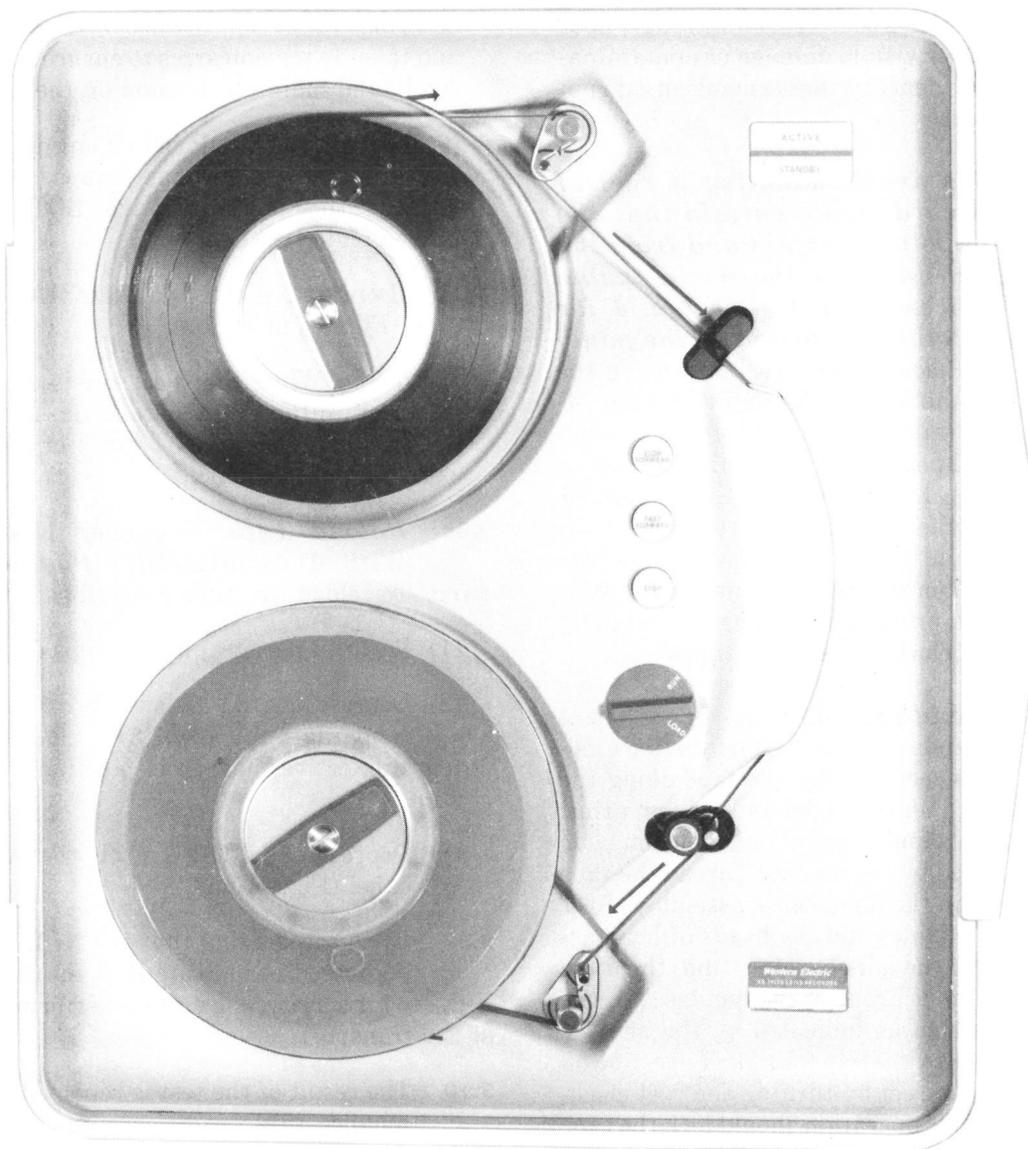

Fig. 4—KS-19125, L3, Recorder (With Tape Reels in Place)
(5) **Caution: To avoid mounting a reel of tape backward, make certain that the tape feed will be to the right and from the top of the reel and that the write-enable ring groove faces inward. (See Fig. 4 for threading guidelines stenciled on the panel of transport.)** Place the new reel of tape on the supply reel turntable with the groove facing inward, making certain that the reel hold-down knob is in the unlocked position that permits the reel to be freely positioned. Push the reel firmly against the turntable surface and turn the reel hold-down knob clockwise until firmly secured. Check the motion of the reel on the supply turntable for wobble, warpage, and proper positioning by manually rotating the reel clockwise several times.
(7) Turn the pinch roller knob to RUN position.
(8) Depress the SLOW FORWARD switch, causing the tape to advance at slow speed. Observe whether the tape is advancing properly, passing smoothly over the tension arm guides, and riding in the guides of the head assembly. Check the tape winding on the take-up reel. If the tape edge touches either reel flange, check the seating of the reel on the turntable. If the reel seating is proper and the reel is not damaged, but the tape still